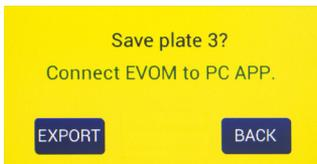

Fig. 29—Verify that the EVOM™ Manual is connected to the EVOM™ Companion Application running on the computer.
1. If you selected the **APP Save** option (Store Options screen) and pressed the **Store** button on the main screen or the **Store Now** button on the Store Options screen, a prompt appears asking you to connect to the Companion Application (Fig. 29).